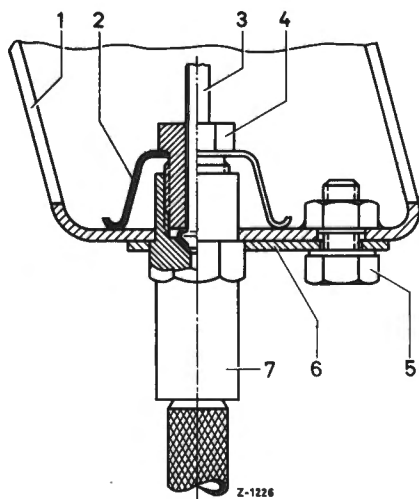

Fig. 33-1/9
27. Check the brake hoses (7) right and left and make sure that they fit tightly into the brake line on the brake anchor plate. Loosen the hexagon screw (5) on the retainer (1) and insert the brake hose in the protection plate (6) at the retainer (1). Take
care that the hose is not twisted. Now tighten the hexagon nut (5) on the retainer. Fit the brake hose retainer (2), screw the sleeve nut (4) of the brake line (3) into the brake hose and tighten, holding the brake hose steady (Fig. 33-1/9).